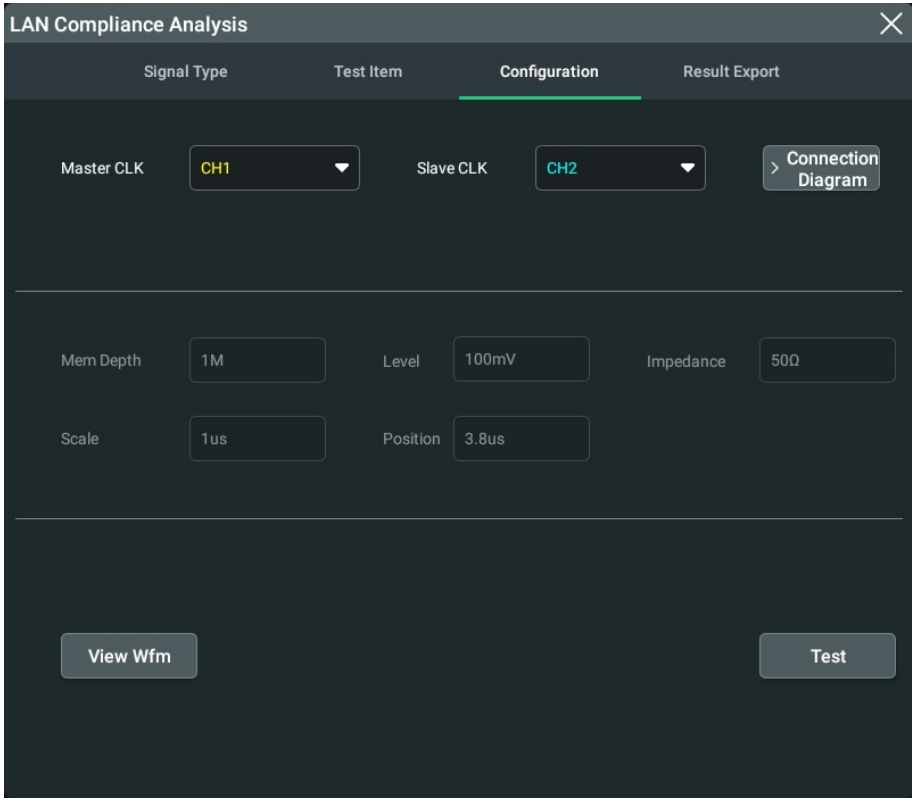

Figure 4.29 Test Configuration
4. After the specified signal type and test item are selected, the oscilloscope outputs a waveform based on the automatically set parameters such as level, scale, and impedance. Click or tap the **Configuration** tab to enter the "Configuration" menu. In this menu, you can view the parameters, as shown in *Figure 4.29*.